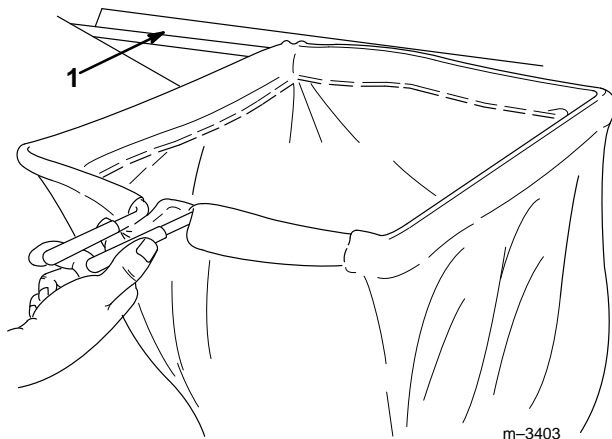

Figure 6
1. Slide the grass bag under the bag cover and position the front edge of the bag rod into the screen support bracket on the bag frame (Fig. 6).
5. Slide the grass bag under the bag cover and position the front edge of the bag rod into the screen support bracket on the bag frame (Fig. 6).